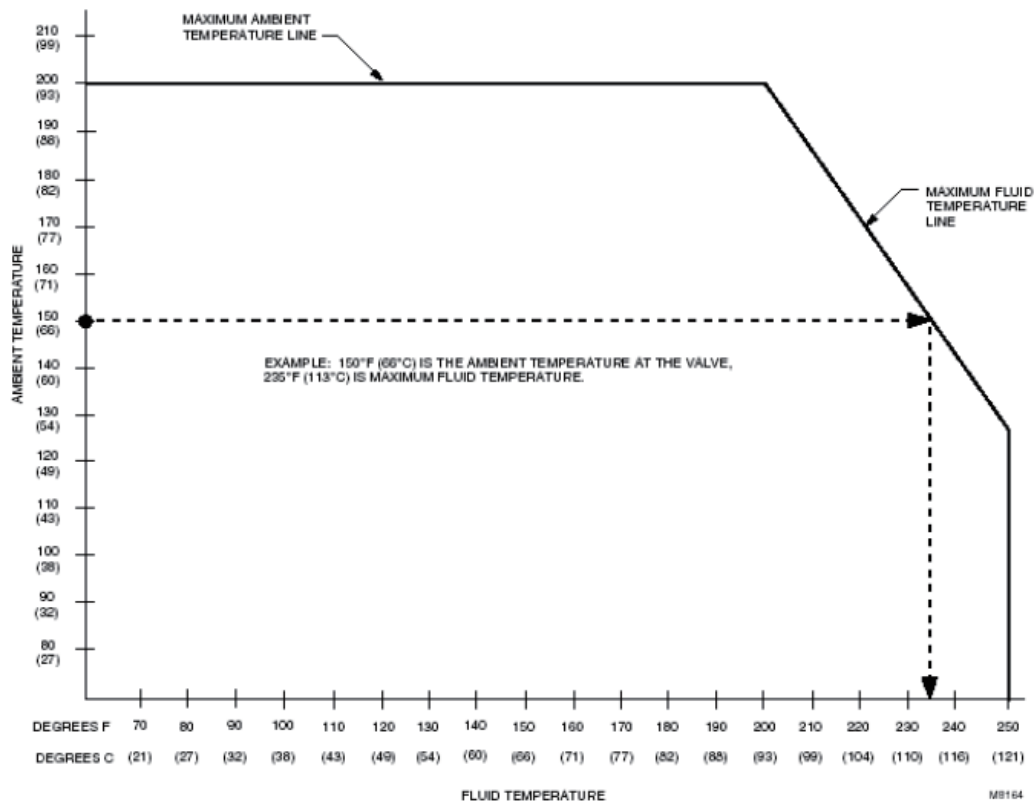

Fig. 2. Maximum temperature characteristics of valves with Class F motors
The maximum operating temperature for motorized valves depends on the maximum ambient temperature at the valve location, and on the maximum fluid temperature. Using the graph in Fig. 2, find the maximum valve operating temperature as follows:
3. Draw a line from that point down to the fluid temperature scale to find the maximum operating temperature. (Note the example shown by the dashed line in Fig. 2.)